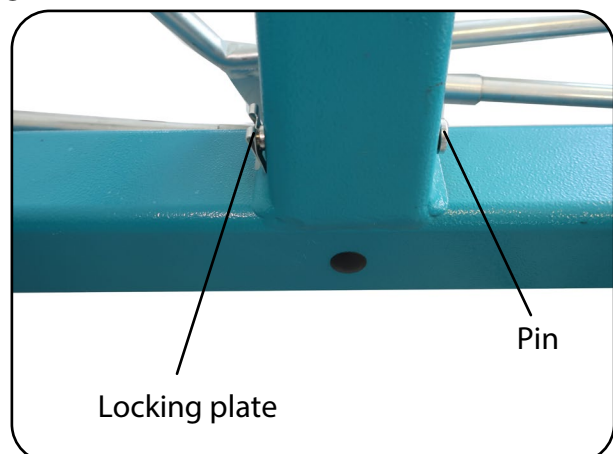
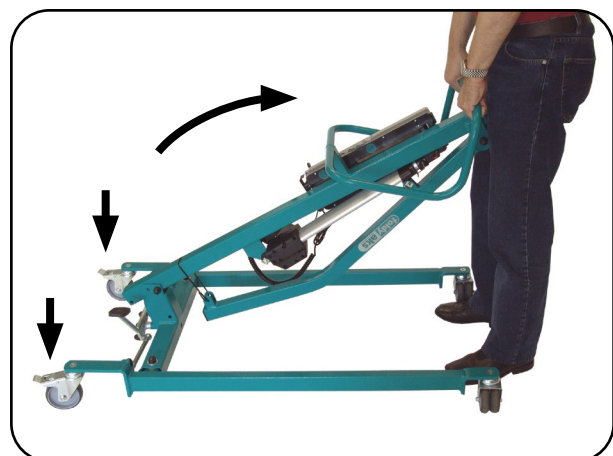

Fig.13.2.03 – Stand mast holder
Fig.13.2.02 - Folding away the stand mast
1. Brake the two rear castors on the operator side by activating the foot lever (Fig.13.2.03) (see chapter on Operation, section **Castors**).
3. First swivel the lift drive and then swivel the lifting arm to the stand mast. Fix the lift drive and lifting arm to the stand mast using cable ties or Velcro strip (Fig.13.2.03).
4. Remove the locking plate with the pin from the stand mast holder and slowly and carefully fold the stand mast forwards (Fig.13.2.02 and Fig.13.2.03).